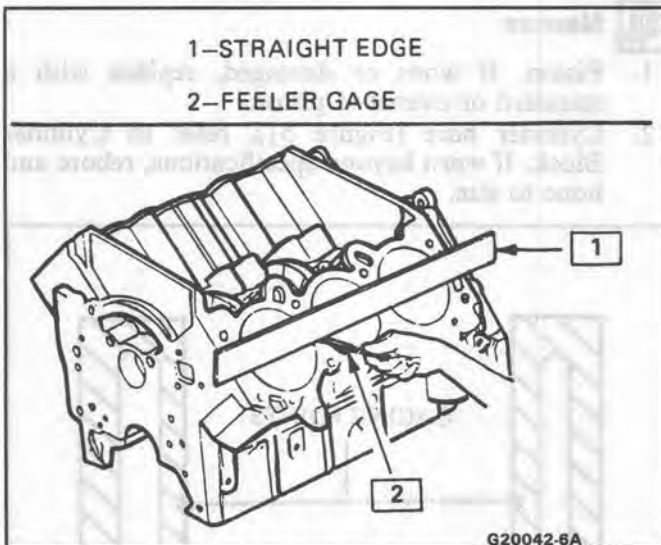

Figure 46 Checking Cylinder Block for Flatness
- Deck surface for flatness. Use a straight edge and a feeler gage (Figure 46). Minor irregularities may be carefully machined. If more than .25 mm